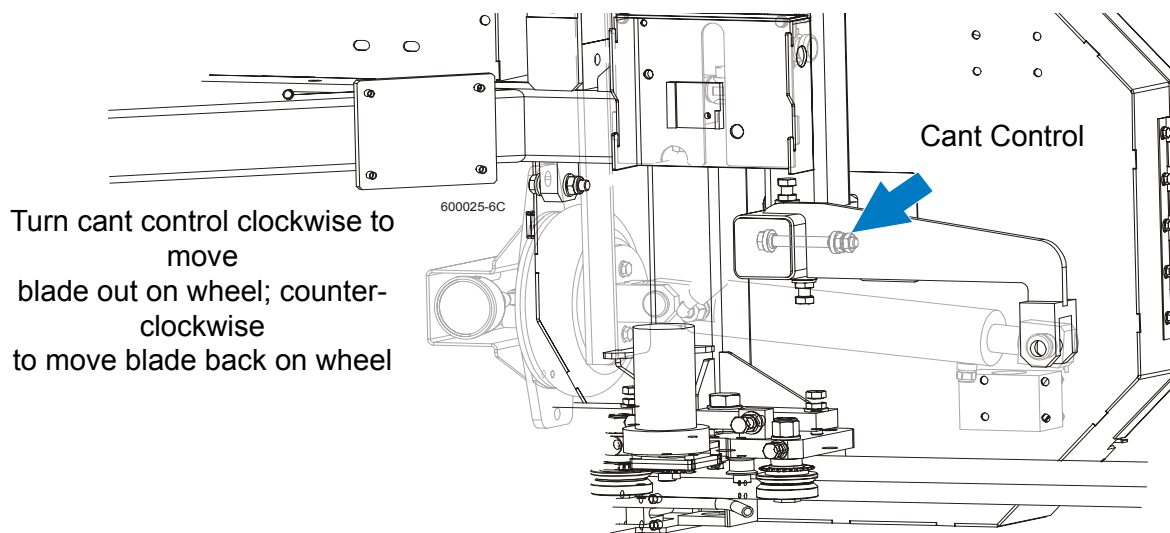

**FIG. 5-19**
**See Figure 5-19.** The horizontal tilt of the blade wheel should be adjusted so that the gullet of a 1-1/4" blade is 1/8" (3 mm) out from the front edge of the wheel ( $\pm 1/26$  [1mm]). The gullet of a 1-1/2" blade should be 3/16" (4.5 mm) out from the front edge of the wheel ( $\pm 1/26$  [1 mm]). Do not let the teeth ride on the wheels.